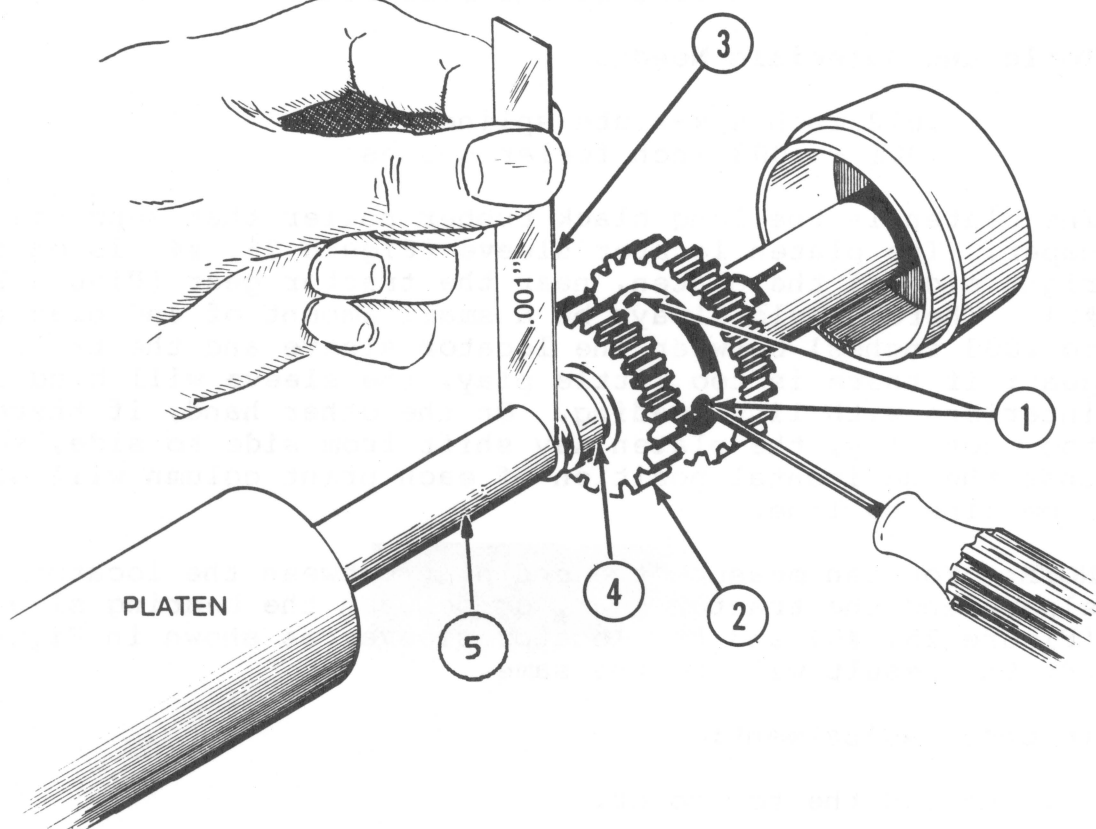

FIGURE 25
The platen is the long black rubber roller that supports the paper. The platen locator sleeve (Figure 25, #4) is on the right side of the platen, near the tractor gear (Figure 25, #2). There should always be a small amount of end play (.001 to .003 inches) between the locator sleeve and the tractor gear: if there is too little play, the sleeve will bind and interfere with line feeding. On the other hand, if there is too much play, the platen may shift from side to side, so that the horizontal position of each print column will shift from line to line.
**NOTE:** You can measure the end play between the locator sleeve and the tractor gear, or between the bearing sleeve (Figure 25, #5) and the locator sleeve, as shown in Figure 25: the result will be the same.
4. Hold the platen vertical, so that the tractor gear (Figure 25, #2) is at the top.
5. With your fingers, twirl the bearing sleeve (Figure 25, #5) in one direction and the platen locator sleeve (Figure 25, #4) in the other direction. At some point they will probably bind (resist movement). Move them in the opposite direction until you find the point at which they are loosest. (If you cannot move them at all, they are too tight and should be adjusted.)
1. Hold the platen upright so that the tractor gear (Figure 25, #2) is at the top.
2. Find the point at which the two sleeves are loosest. If you can, insert a .001 or .0015 inch feeler gauge between the sleeves (see Figure 25). (If you can't, go on to step 3).
3. Loosen the two collar set screws (Figure 25, #1) with the .072 inch six-flute spline wrench. (Insert the .001 or .0015 inch feeler gauge between the sleeves at the loosest point between them, if you have not already done so.)
5. Remove the feeler gauge and try to twirl the bearing sleeve (Figure 25, #5). A small amount of binding is acceptable, but you should be able to overcome it with a little pressure from your fingers. If the sleeve binds strongly, loosen the collar set screws and repeat the adjustment using a .002 inch feeler gauge.